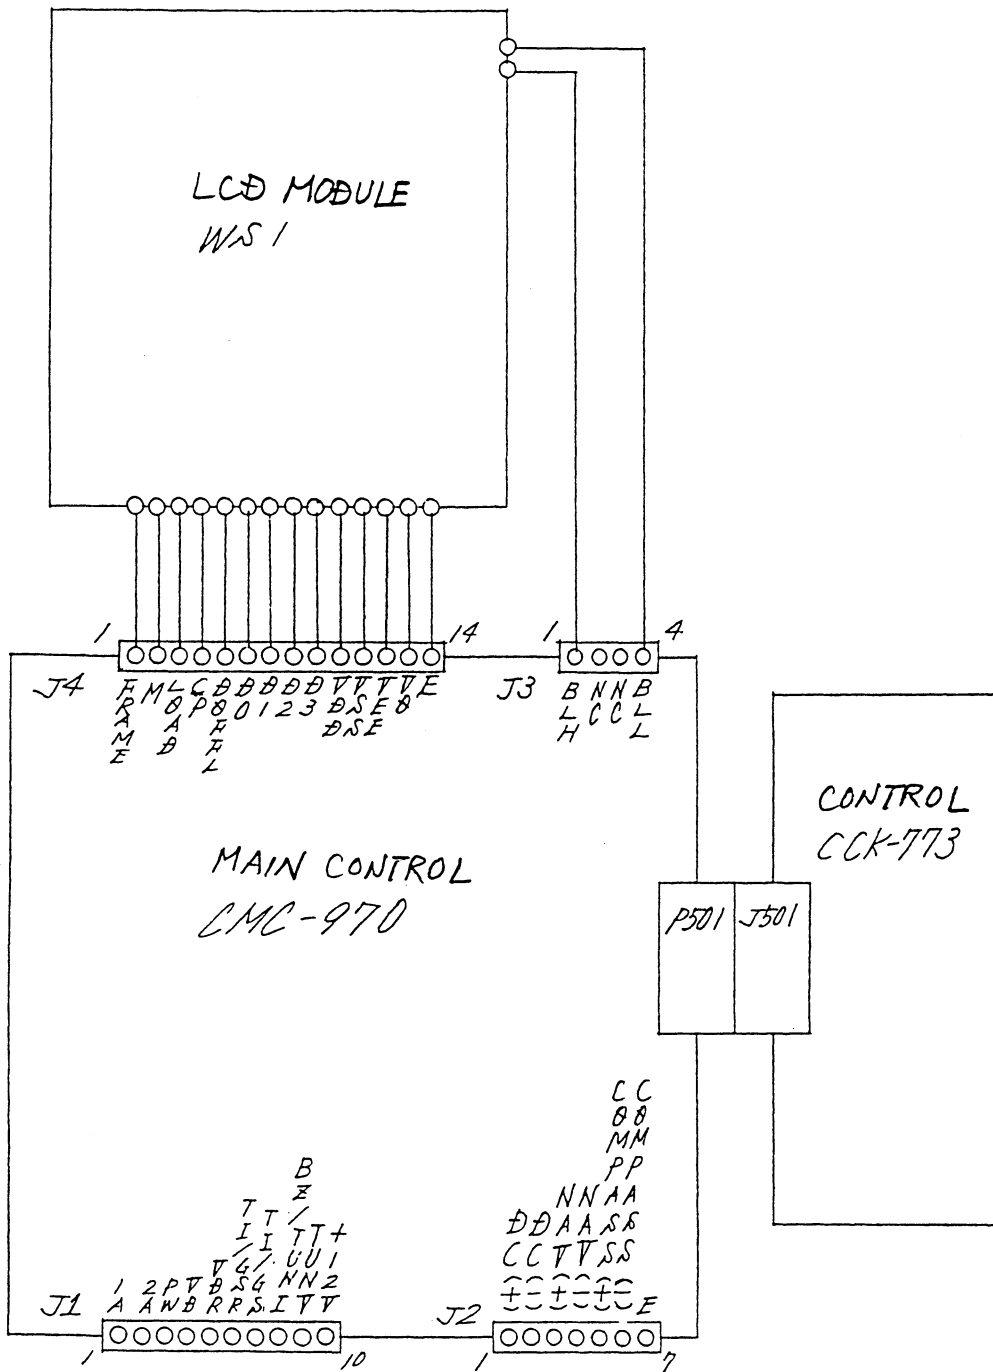

Fig.107 NCD-3717A Display Unit
- Fig. 107 INTERNAL CONNECTIONS OF DISPLAY UNIT NCD-3717A